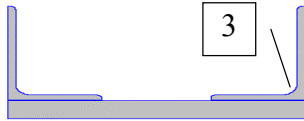

Fig. 44. Setting the second angle
- ☞ press the **Add** button (Fig. 44);